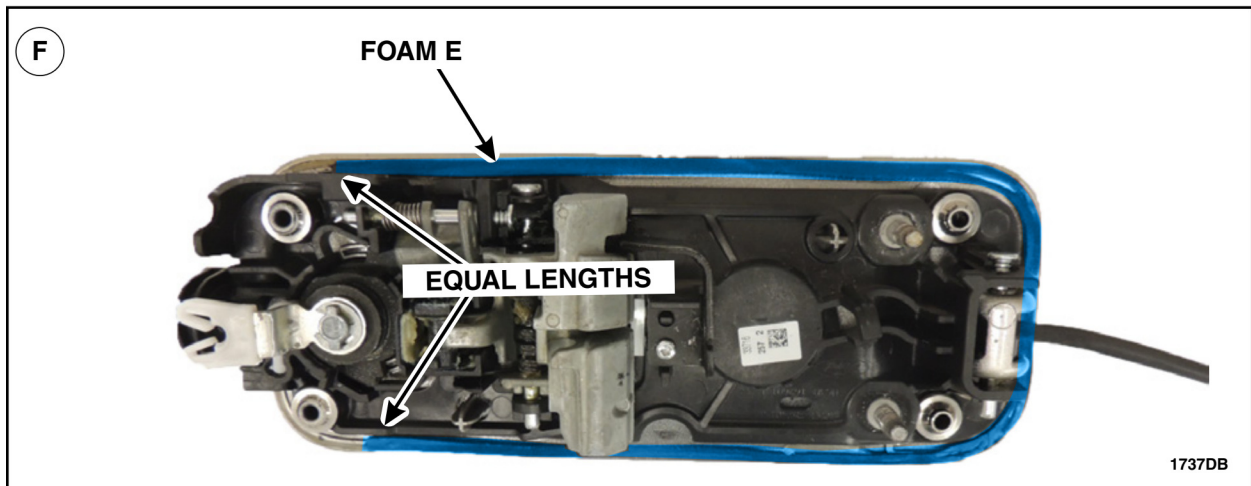

FIGURE 24
- F. Without stretching the foam adhere it to the exterior door handle ensuring that both sides of foam E are of equal length once secured. See Figure 24.